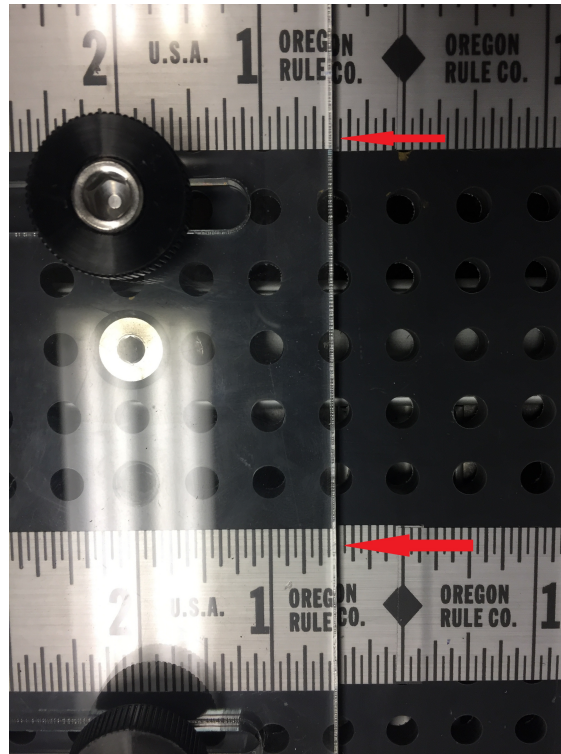

Figure 2.2: Secure the Foam Step 2
2. Set one acrylic plate half of the width of the foam so that the foam will be centered on the work panel. Make sure both ruler reads the same so that the acrylic plate is in the vertical direction as shown in fig 2.2 below.